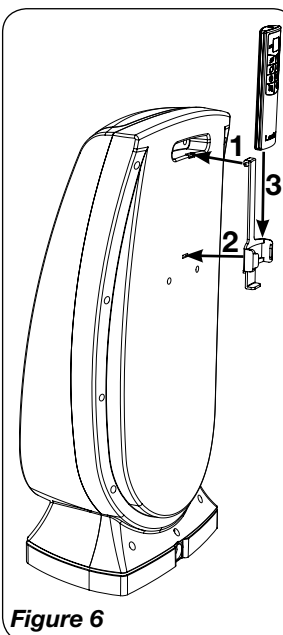

Figure 6
4. Attach the remote holder to the back of the heater. Slide the remote downward to secure it into the remote holder. (Figure 6)